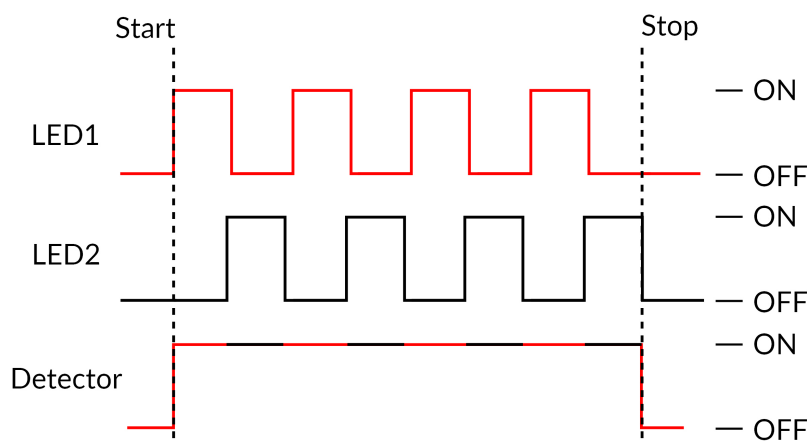

Figure 3.10: Interleaved Acquisition Timing Diagram
- The **Interleaved** channel mode allows 2 channels to send an alternating pulsed signal of opposite phase for two separate light sources. Each source can excite a different fluorophore, which allows the detection of two separate fluorescence signals coming from the same sample using a single channel (Fig. 3.10). A more detailed procedure to use this modality is included in section 3.1.3.